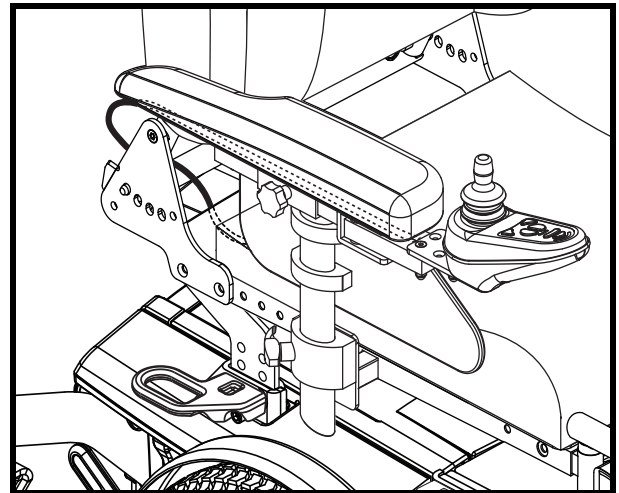

Figure 19. Cable Routing
7. Route the controller harness to the front of the power base and reconnect the controller. See figure 19.